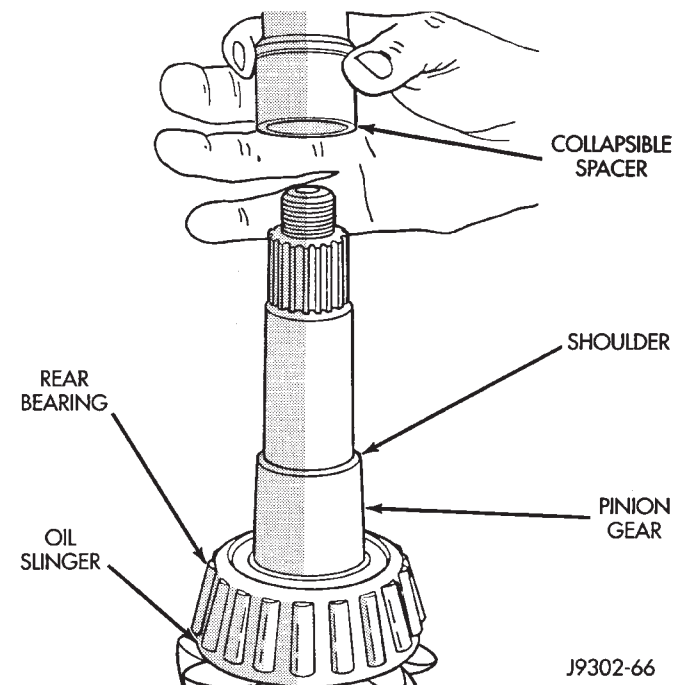

Fig. 33 Collapsible Preload Spacer
(9) Install a new collapsible preload spacer on pinion shaft and install pinion gear in housing (Fig. 33).
(10) Install pinion gear in housing.